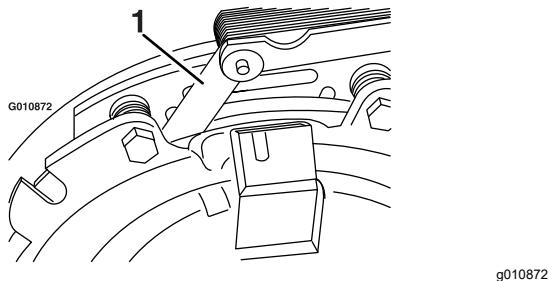
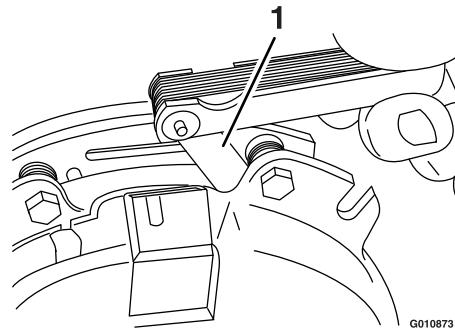

Figure 91
Figure 92
E. Using a 0.25 mm (0.01 inch) thick feeler gauge, verify that a gap is present between the rotor and the armature face on both sides of the brake pole as shown in Figure 91 and Figure 92.